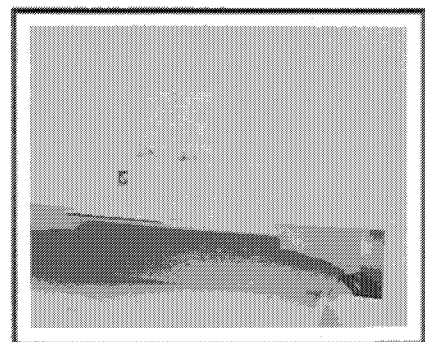

Fig. 3
**N.B. :** If the optional top fixing bracket is to be used this should now be attached to the top of the rear case with the screws already fitted to the case (fig. 3).